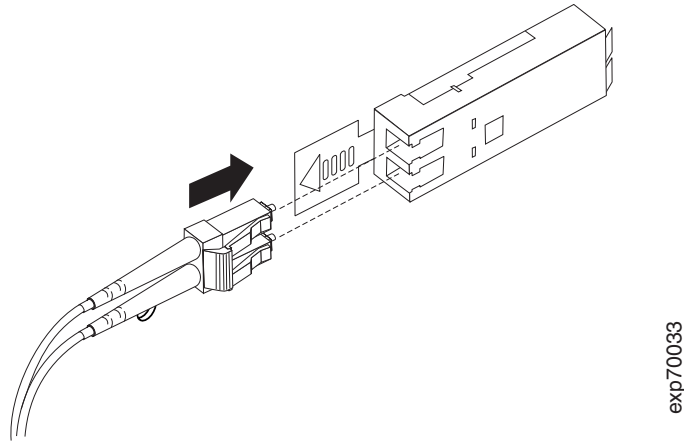

Figure 26. Inserting an LC-LC fibre channel cable into an SFP module
4. Carefully insert that same end of the LC-LC cable into an SFP module that is installed in the storage expansion enclosure. The cable connector is keyed to ensure it is inserted into the SFP module correctly. Holding the connector, push in the cable until it clicks into place, as shown in Figure 26 on page 38.